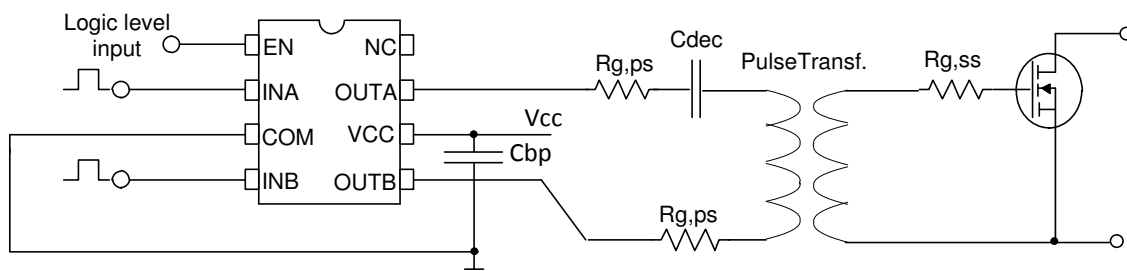

Figure 2: Bridge Tied Gate Driver configuration
This is a popular configuration that allows driving high side Fets using a low side gate driver, the Fig. 2 shows the typical schematic for a single Fet drive:
- $V \cdot \mu\text{s}$ ratings: this factor must be respected, in bipolar drive application (like the one shown in Fig.2) a maximum of up to twice that parameter is still acceptable for most manufacturers, this factor then must be chosen accordingly to the following formula: